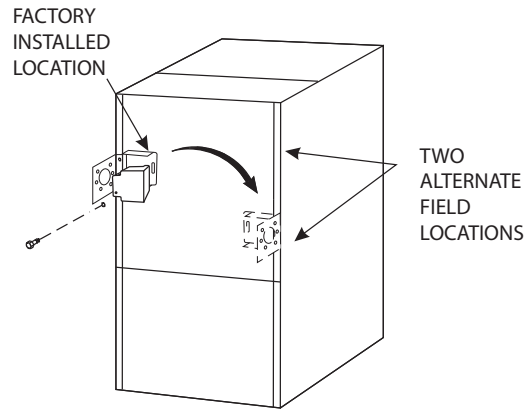

Fig. 23 – Relocating J-Box
1. Remove and save two screws holding J-Box. (See Fig. 23.)
4. Remove and save two screws holding J-Box. (See Fig. 23.)